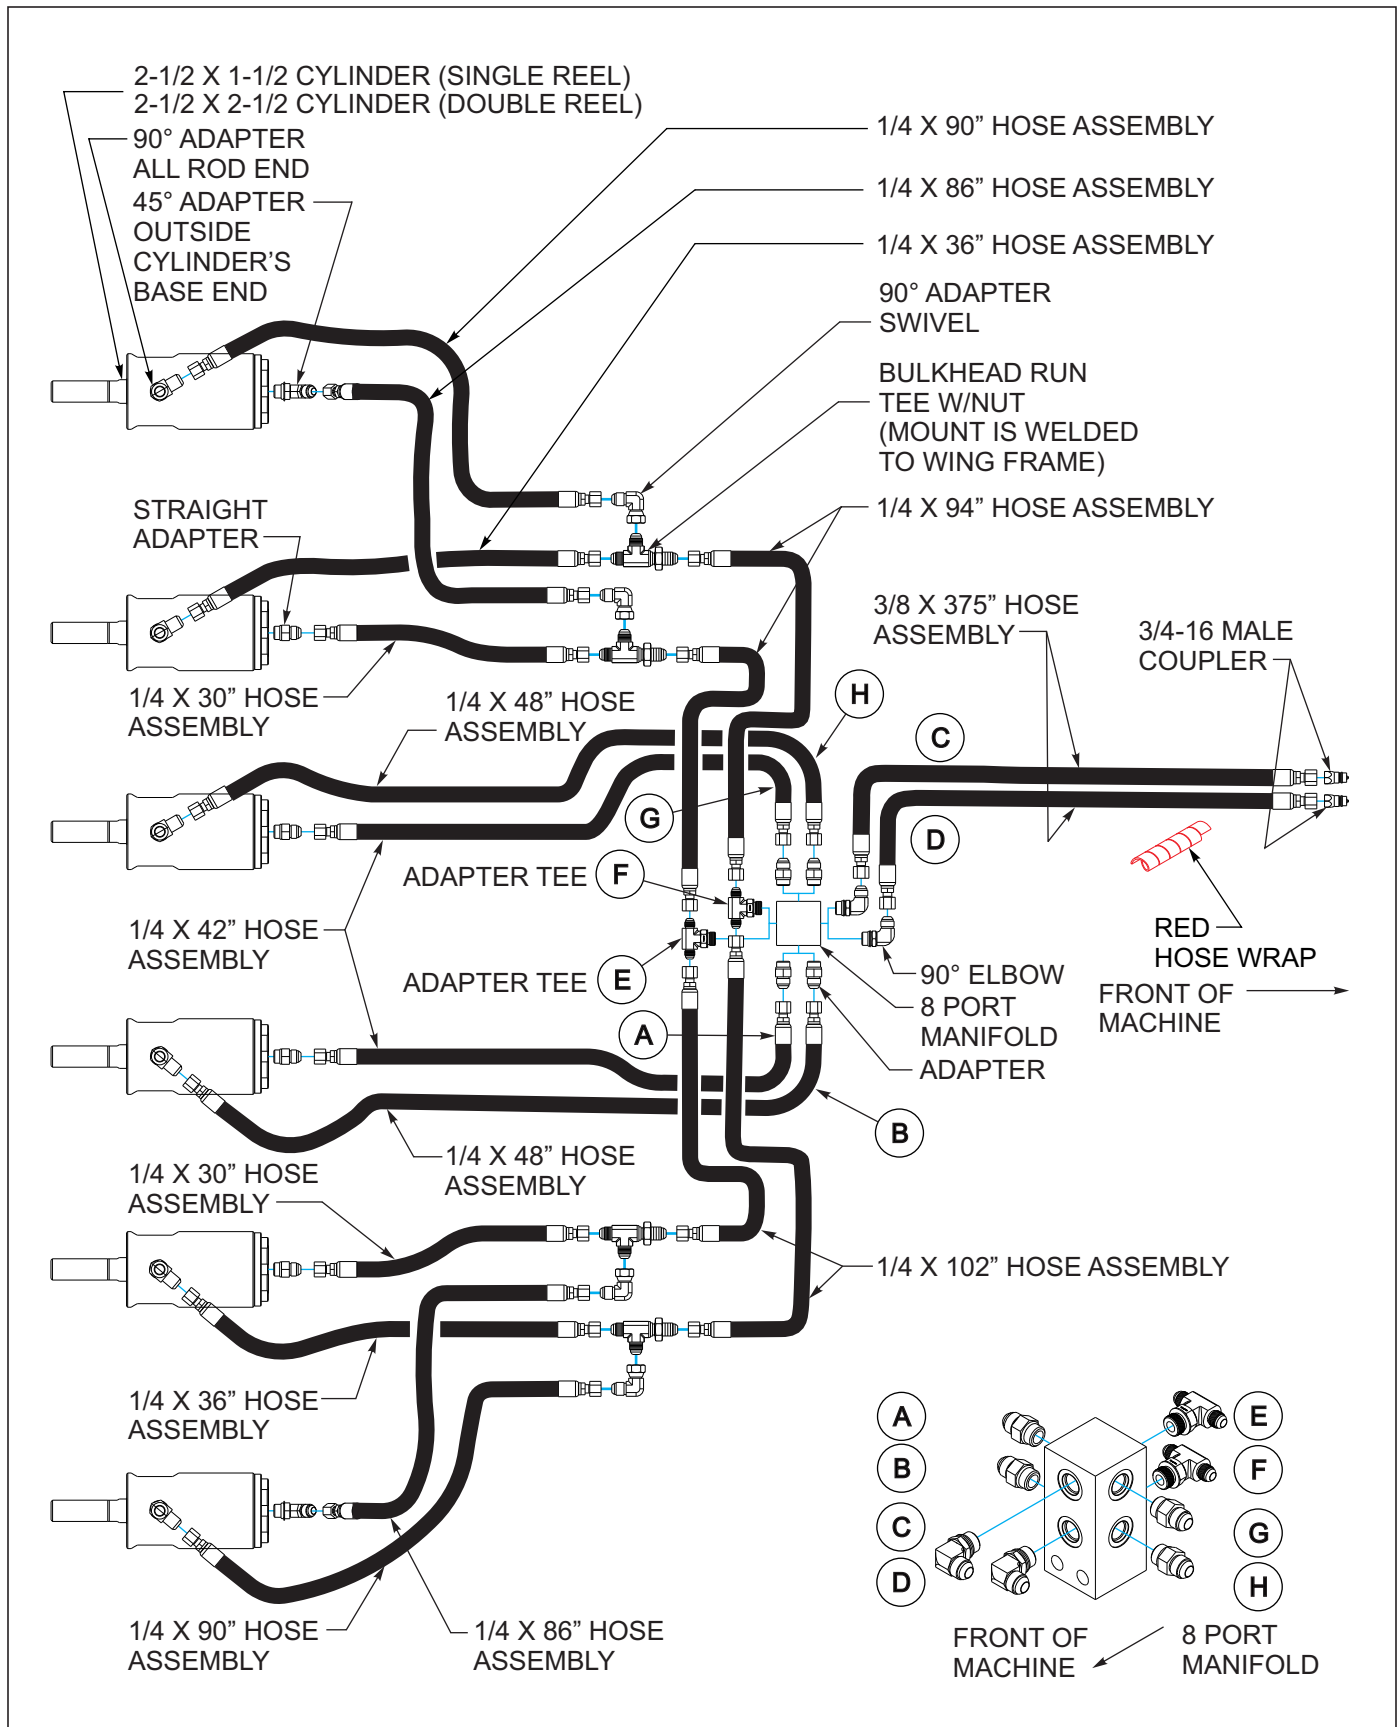

Figure 3-52: Reel Hydraulic Installation 7530-26'
Refer to **Figure 3-52** for hydraulic diagram for the 7530-26 model.
7. Install cylinders, fittings and hoses per Figures 3-52 thru 3-53.